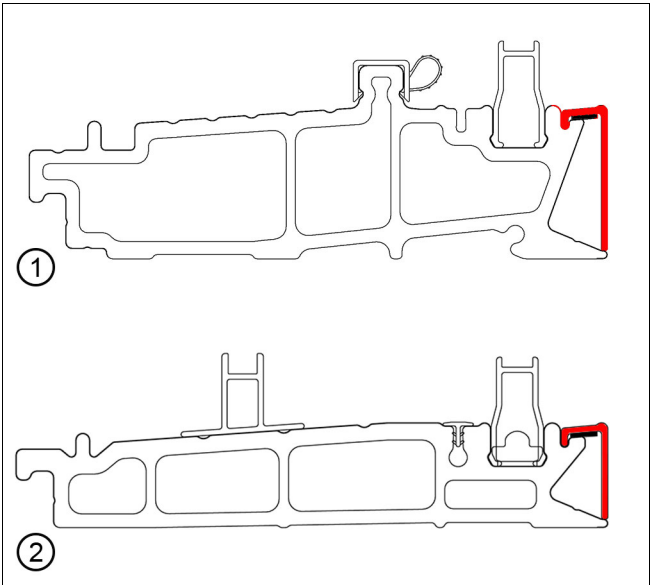

Figure 54
3. Locate and remove the tape backer on the interior sill liner. Press down and fully seat the sill liner. See Figure 54.